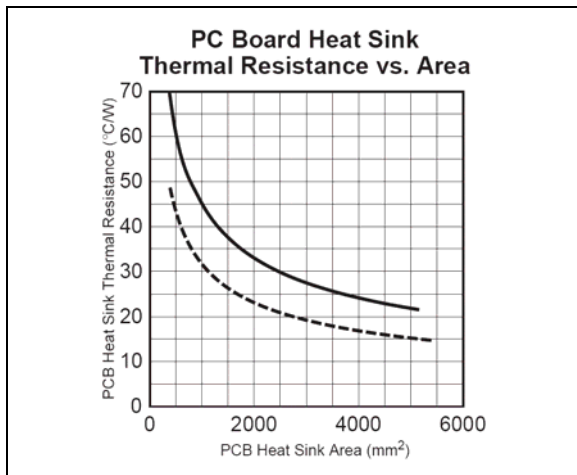

FIGURE 4-4: Excerpt from the LDO Book.
- $R_{\theta_{CA}} = 53^\circ C/W$ (as read from Figure 4-4)